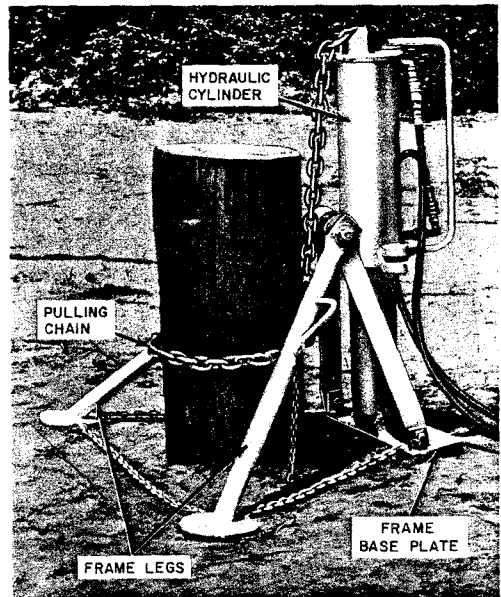

Fig. 5—Pole Butt Puller
3.07 Use a hydraulic pole puller, pole butt puller (Fig. 5), or a pole jack as required for starting the pulling of the pole.